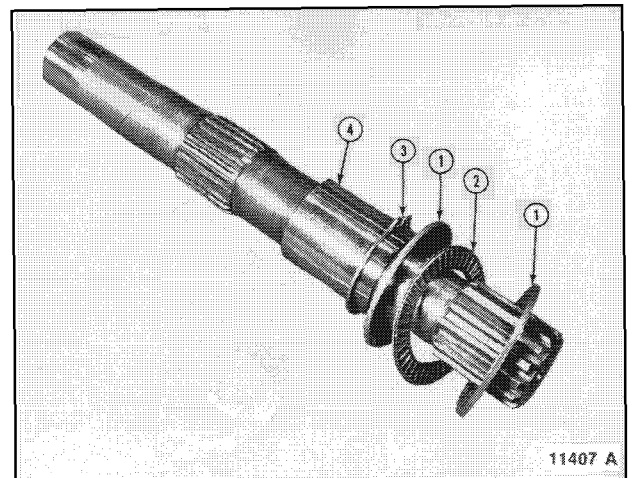

Figure 19
33. Remove two thrust bearing races (1, Figure 19), thrust bearing (2) and retaining ring (3) from drive shaft (4).